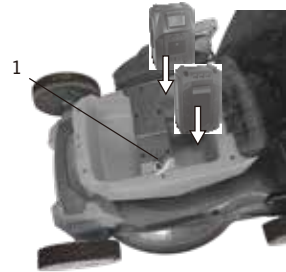

FIG. 8
2. Unplug the safety key (1) (Fig. 8).
3. Remove the discharged battery packs by pressing downward on the battery release button and sliding the battery pack backward until it is removed from the battery compartment (Fig. 8).